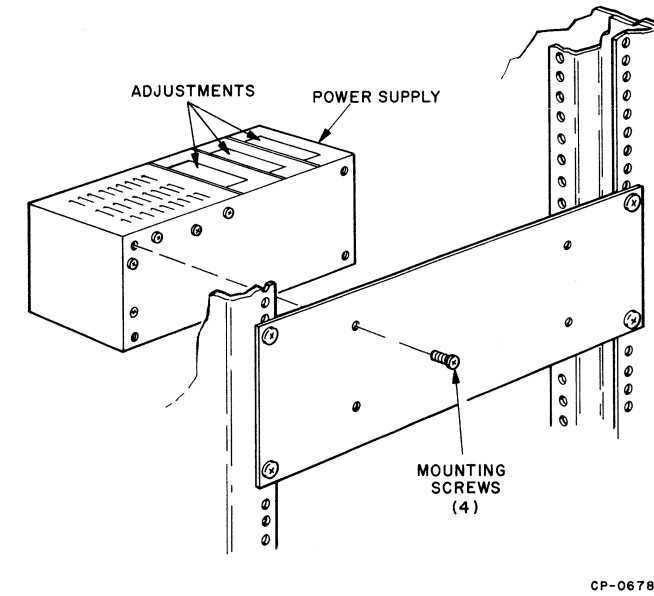
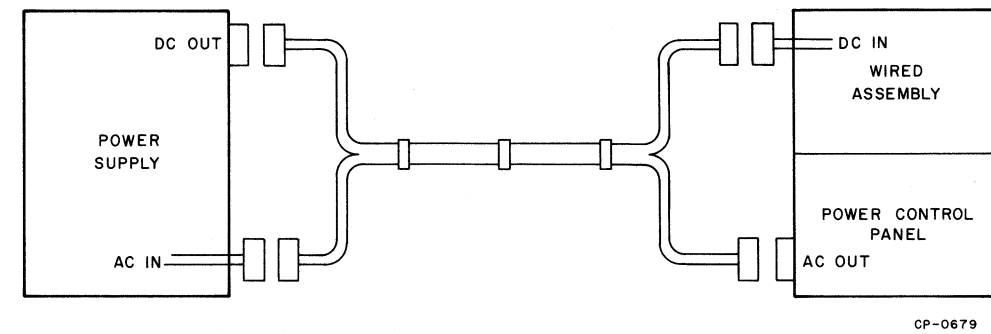

Figure 2-5 Placement of Power Supply
Figure 2-6 Extender Cabling Diagram
The power supply is located on the rear of the cabinet (Figure 2-5). The supply provides -15V, +5V and +20V for the read/write electronics. A power supply extender cable is used to connect the power supply and the main chassis of the drive unit. Primary ac power is routed from the power control panel to the supply via the extender cable. The dc output from the supply is routed to the wired assembly also via the extender. See Figure 2-6 for power supply cabling. Additional power supply information is given in Appendix B.
*The Power Supply has been removed from the main chassis and located on the rear of the cabinet (Figure 2-5).
2	Attach the H737 Power Supply to the panel with four mounting screws. The adjustments should be on top (Figure 2-5).